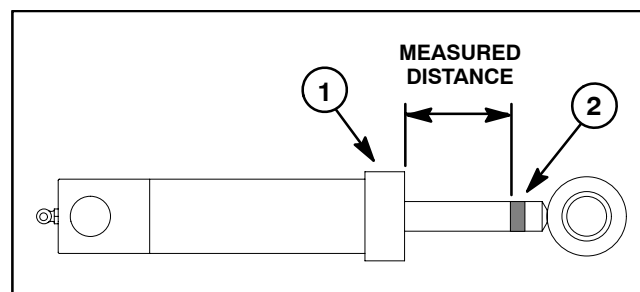

Figure 28
6. Place a piece of tape on the lift cylinder rod near the rod end (Fig. 28). Measure and record the distance from the lift cylinder collar to the tape location.